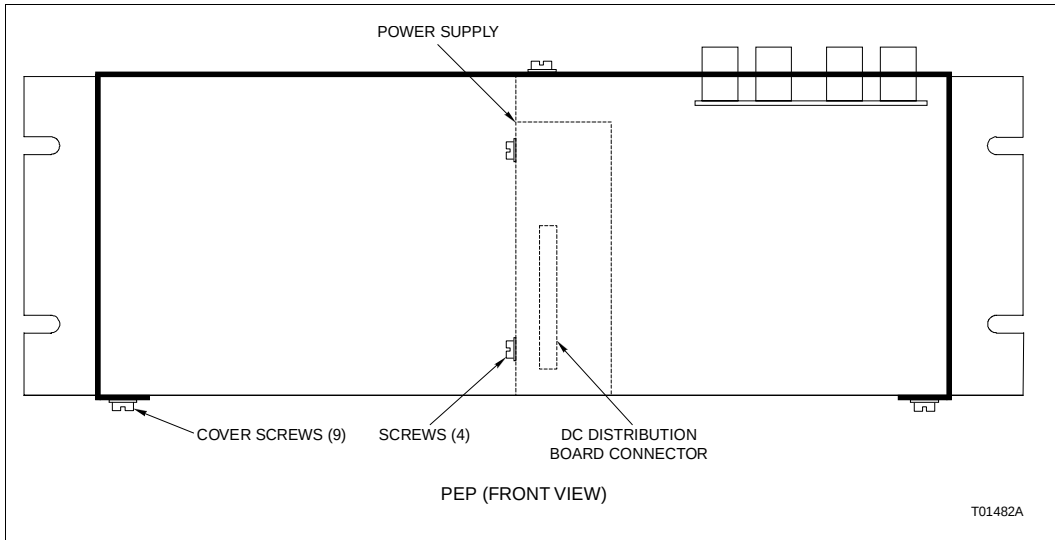

Figure PR25-3. Environmental Model Power Supply Installation
- ☐ 2. Use the bladed screwdriver to install the four screws that hold the power supply to the center support wall of the PEP (Fig. PR25-3).